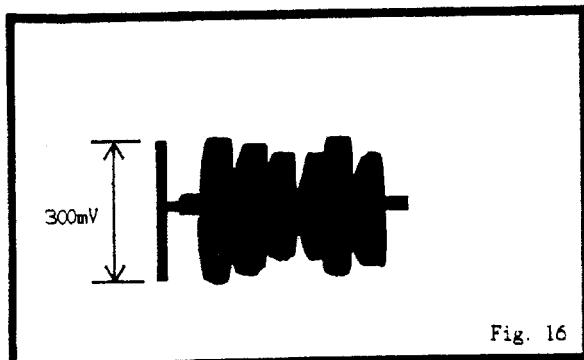

Fig. 16
2. Connect the oscilloscope to pin ④ CP4202.
3. Adjust VR8012 for the waveform indicated Fig. 16.